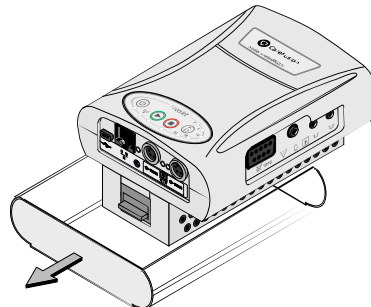

Figure 2
3. Carefully slide the plastic cover off the amplifier (Figure 2).